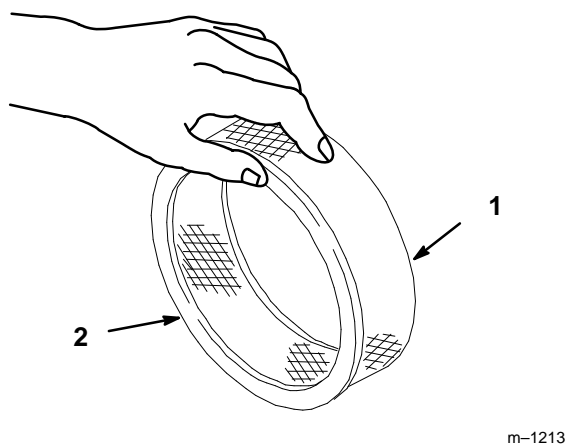

Figure 12
- A. Lightly tap the element on a flat surface to remove dust and dirt (Fig. 12).